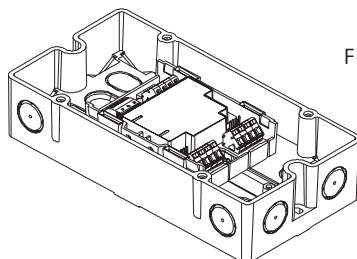

Fig. 4.5.2
- Installation outside a switching cabinet or a control unit: use FDCH221 housing (Fig. 4.5.2) .
3. Mount the housing on an even surface with two screws (Fig. 4.5.2). Distance between holes: 182.0 ± 1.0 mm.